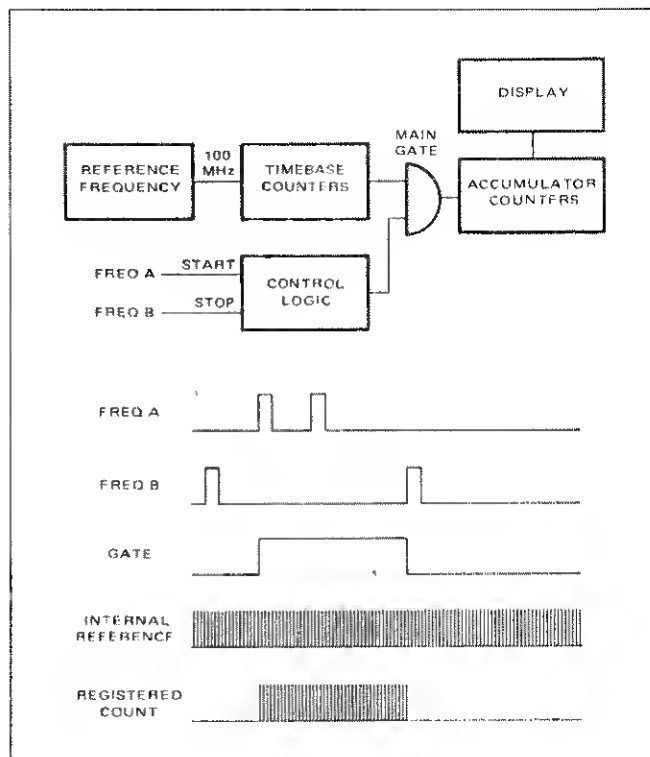

Figure 4.8 - Time Interval
4.3.8.1 The Time Interval mode of operation allows measurement of the time between two electrical events to a maximum resolution of 10 nanoseconds (figure 4.8). The first event (start) is connected to channel A and opens the gate. The second event (stop) is connected to channel B and closes the gate. These signals control the main gate through the control logic. Slope and trigger level programming allow variable trigger levels on the + or - slope of the input waveforms. Pulses from the 100 MHz reference circuit are routed to the timebase and to the gate. The pulses occurring during the gate are counted and displayed.